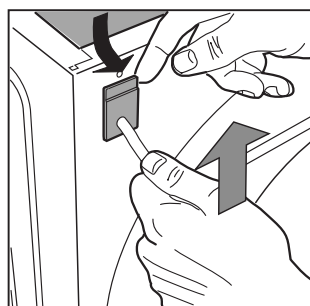

Fig. 5
**4.** Remove the upper part of the cable slightly from the back panel of the appliance, pull the power supply cable upwards and take it out [fig. 5].